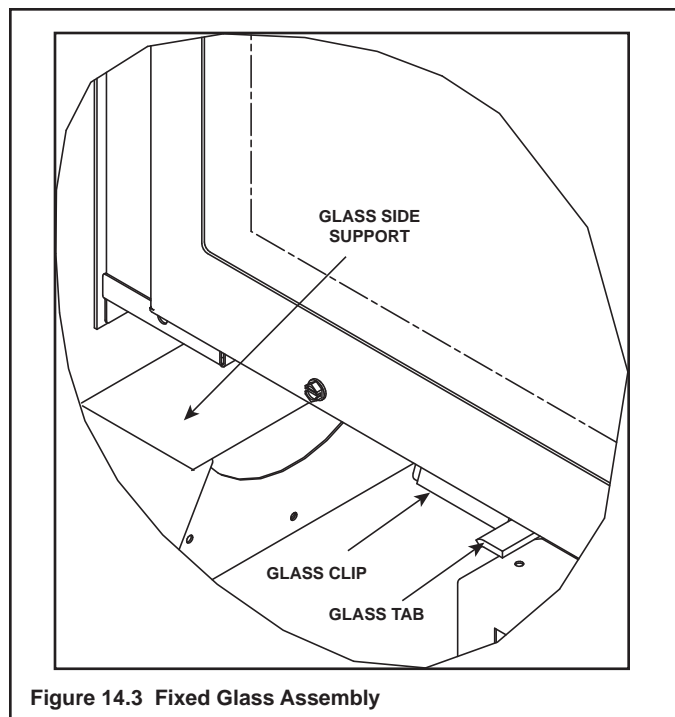

Figure 14.3 Fixed Glass Assembly
3. Use both index fingers to release spring latches. See Figure 14.3.
4. Allow glass to tilt forward. Grasp glass on the upper return lip of glass frame and tilt glass “out” and “down”. Lower gently to rest on side supports. See Figure 14.3. Allow top of glass assembly to tilt forward. Lift glass assembly “up” and “out”.
4. Hold bottom of the glass as you allow the glass assembly to seat over the two lower glass clips. See Figure 14.3.